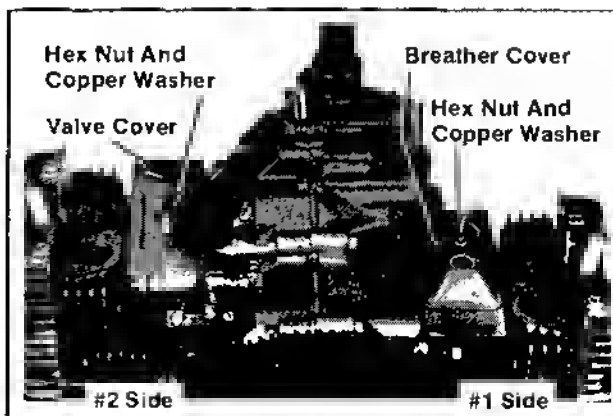

Figure 9-12. Removing Breather and Valve Cover.
1. Remove the hex. nut, copper washer, breather cover, and gasket. Refer to Figure 9-12.
1. Remove the hex. nut, copper washer, valve cover, and gasket. Refer to Figure 9-12.